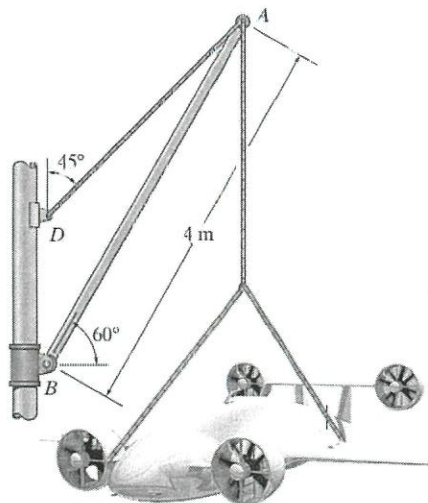

Figure Q3(b)
- (c) The crane is used to hoist a 500 kg Sabrewing cargo drone as shown in **Figure Q3(c)**. Determine: